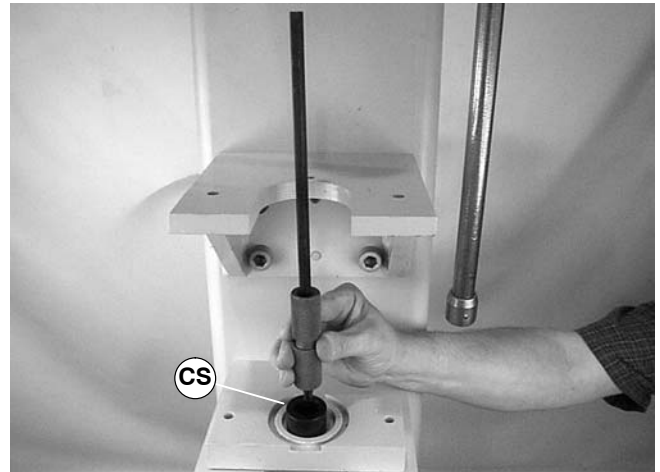

Figure 50
4. Orient bearing anvil/sleeve removal tool (part # 25-09☆) (CS of Figure 50) with cavity facing up and place pulley onto tool.